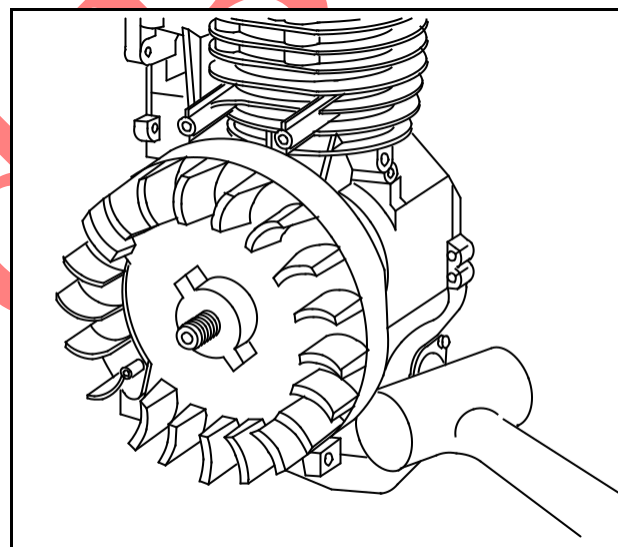

Fig. 8
3. Several blows may be required on a tight or rusted flywheel, Fig. 8.